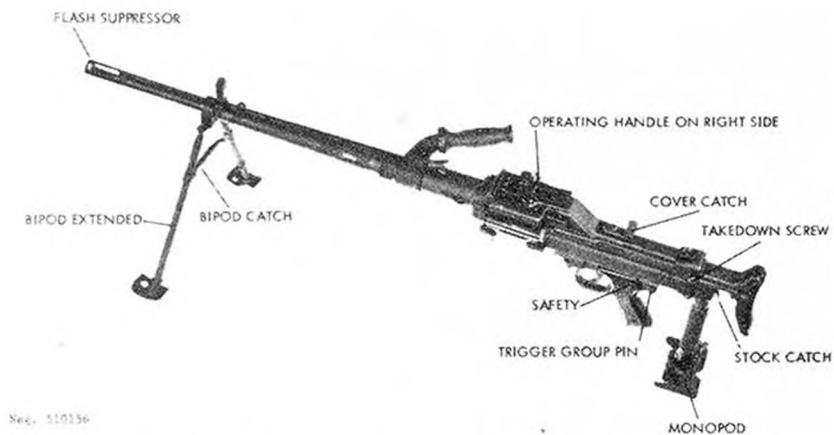

Figure 157. French AA-52 light machinegun.
a. The AA-52 machinegun (fig 157 and 158) is the standard general-purpose machinegun of the French Army. The gun can be readily fitted with one of two different weight barrels, fired from a bipod (fig 157) or a light tripod (fig 159), and fired
b. If the weapon is bipod equipped, unsnap the catch (fig 157) and swing the bipod down. When it is at a right angle to the barrel, spread the bipod legs. If the gun is to be used on a tripod, mate the front recess of the trigger guard with the mount adaptor, then close the barrel clamp (fig 159) and tighten. Press the catch (fig 157) and extend the stock if desired.
c. Pull the operating handle (fig 158) fully rearward, then thrust it fully forward. Press the safety (fig 157) to the left (safe). Press the cover catch (fig 157) forward and open the cover.
a. Clear the gun (para 208f). Press the cover catch (fig 157) forward and open the feed cover.
b. Unscrew the takedown screw (fig 157) at the left rear of the receiver and remove it. CAUTION: Press down on top of the butt while removing the takedown pin. Ease the butt stock upward and remove it. Pull out the driving spring and guide.
d. Remove the trigger group pin (fig 157) after depressing its lock, and pull the trigger group out of the receiver.